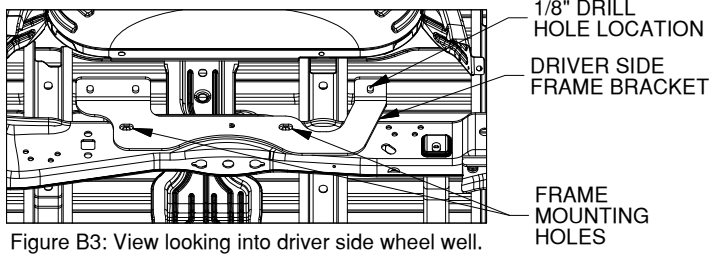

Figure B3: View looking into driver side wheel well.
3. **Check hole locations.** Using the frame brackets, align each bracket to the side of the frame where the brackets will be installed, see Figures B3 & B4. Check that the 1/8" holes are centered within the slots in the frame brackets. If the 1/8" drilled holes are not centered re-drill the 1/8" holes until the brackets and the drilled holes are aligned.